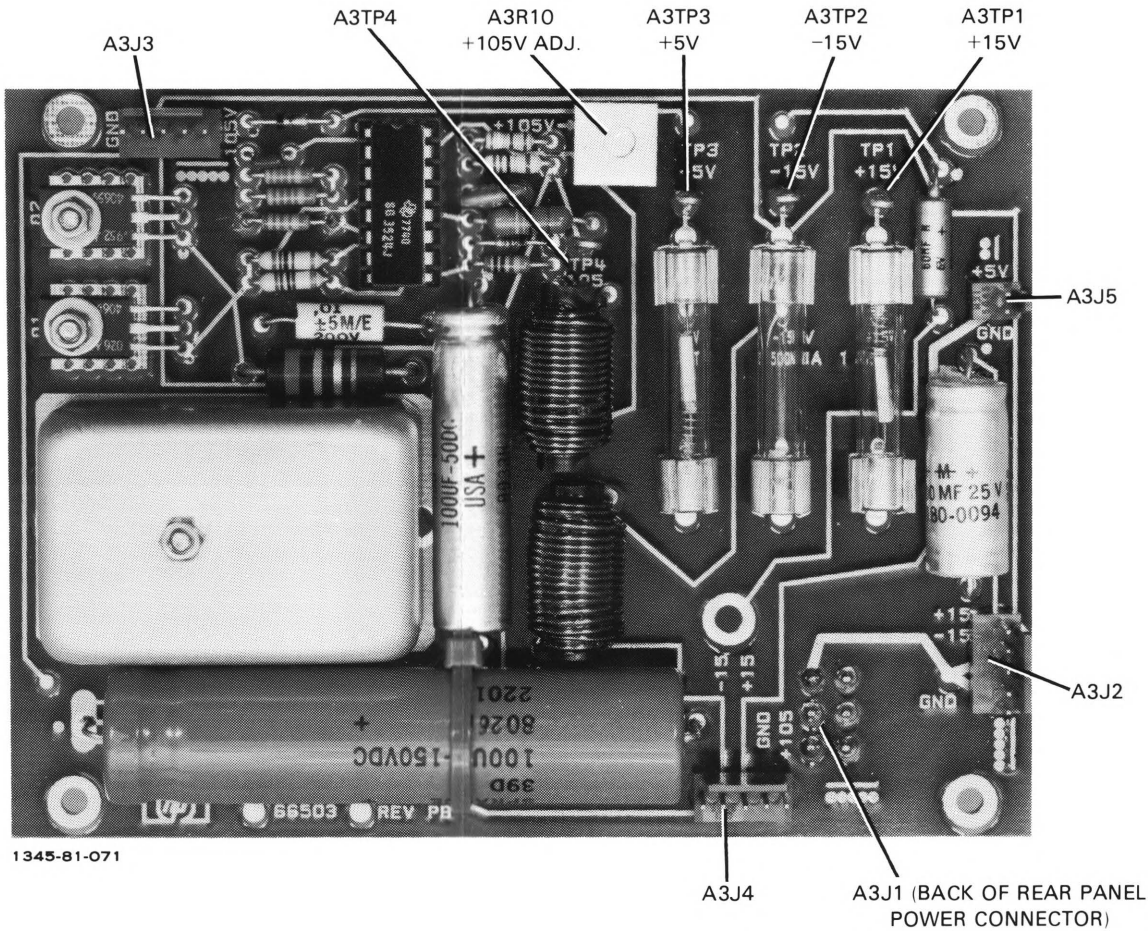
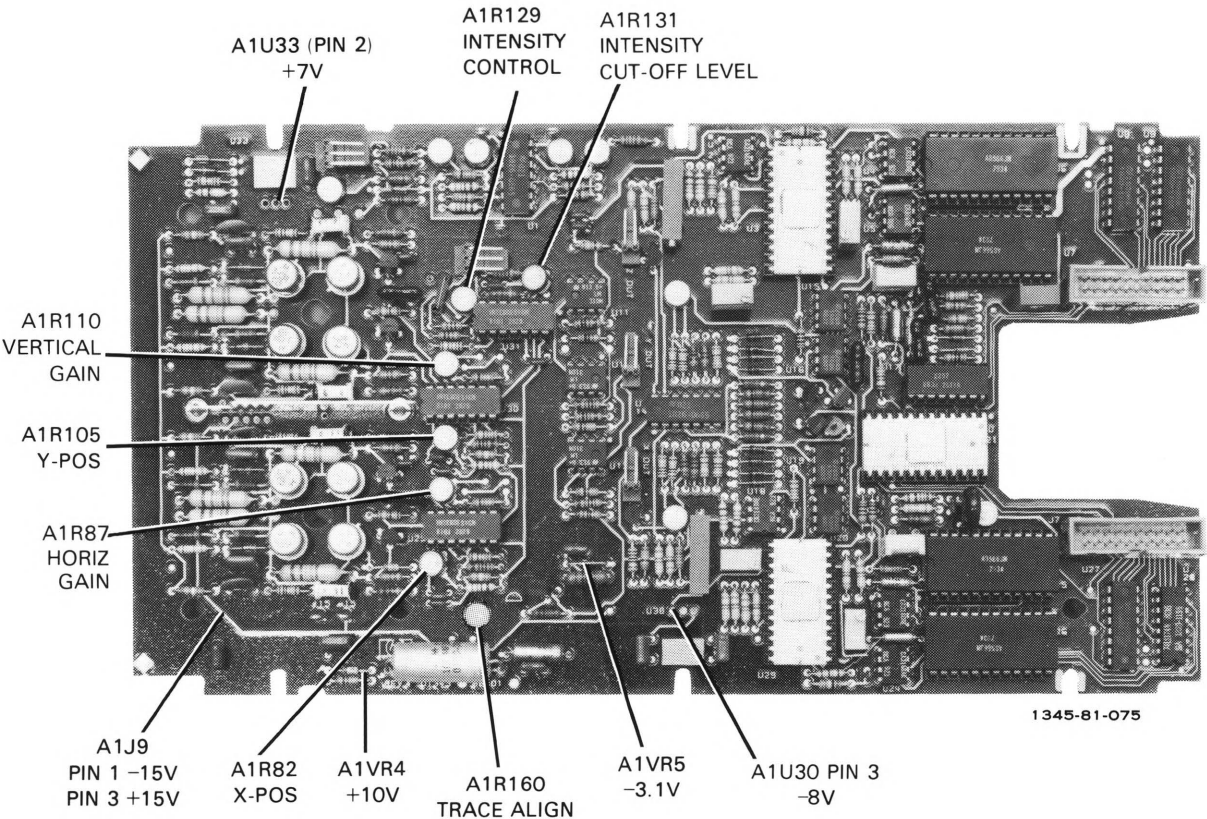

Figure 5-2. Low Voltage Power Supply Adjustment Locations
Figure 5-5. Primary Test Pattern Adjustment Locations
the 105V supply and the high voltage supply are shown in figures 5-2 and 5-3. Adjustment locations for pattern, stroke generator, and stroke intensity and focus adjustments are shown in figures 5-5, 5-8, and 5-11.
- a. If connected, disconnect power plugs to the Stroke Generator Board (A1J8), Vector Processor Board (A2J5), and High Voltage Power Supply Board (A4J1) (see figure 5-2).